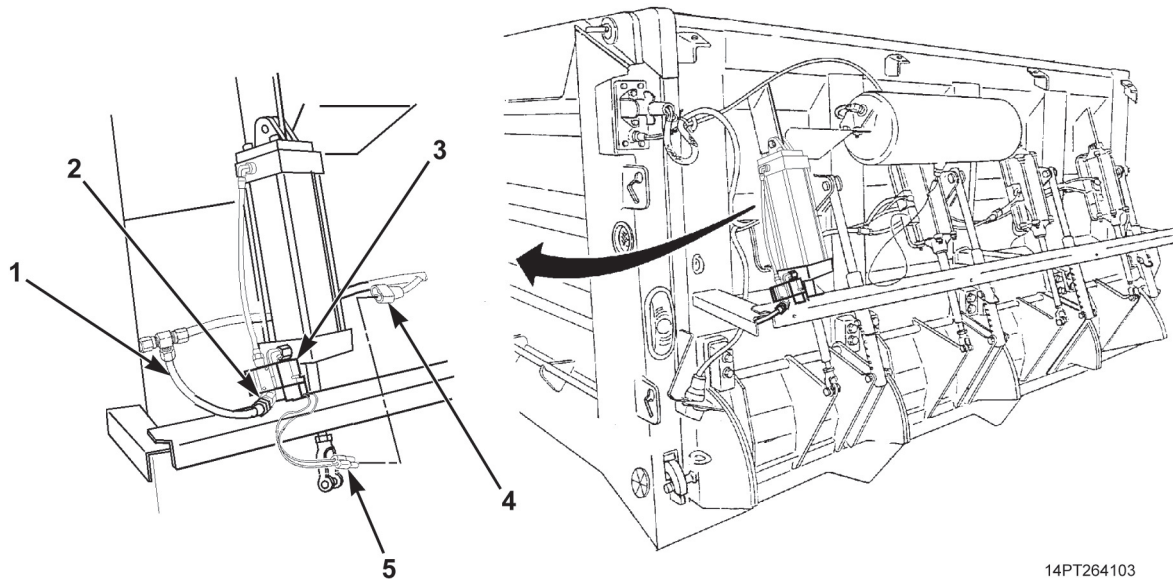

Figure 1. Solenoid Connection Removal.
1. Disconnect solenoid connector (Figure 1, Item 5) from MCS tailgate wiring harness connector (Figure 1, Item 4).
2. Disconnect air line (Figure 1, Item 1) from elbow (Figure 1, Item 2). If damaged, remove elbow from air cylinder solenoid (Figure 1, Item 3).